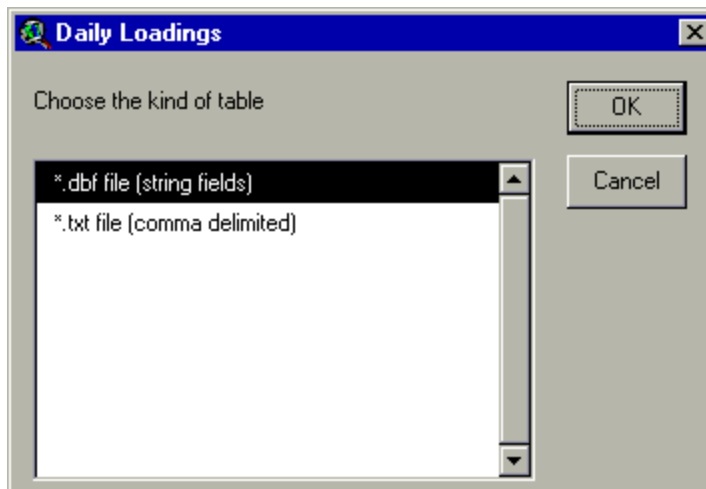

Figure 10.14
- ii. A prompt box will appear so that the user can specify the format of the file containing the average daily inlet discharge loadings (Figure 10.14). Select dBASE (.dbf) or text file (.txt) and click **OK**.